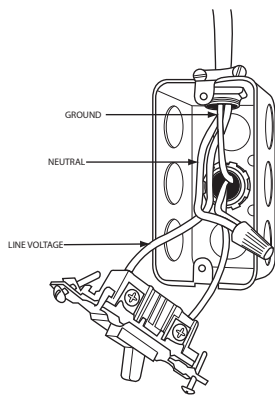

Fig. 26 – Field-Supplied Electrical Box on Furnace Casing
11. Complete electrical box wiring and installation. Connect line voltage leads, see Fig. 26. Use best practices (NEC in U.S. for wire bushings, strain relief, etc).